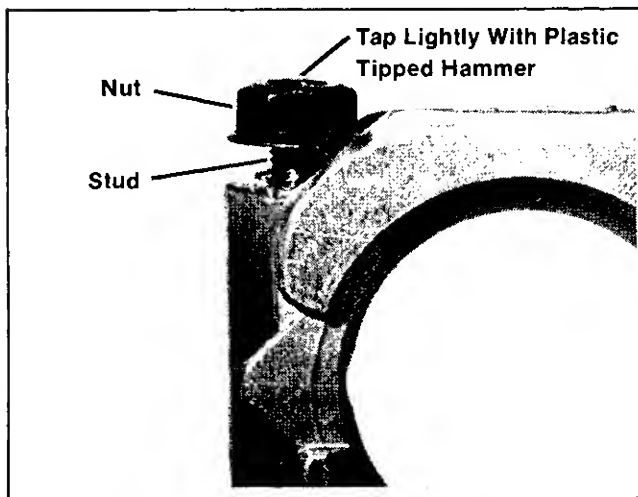

Figure 7-17. Removing Posi-Lock Connecting Rods
1. Loosen and unthread the connecting rod nuts until the ends of the studs are slightly below the top of the nuts. See Figure 7-17.